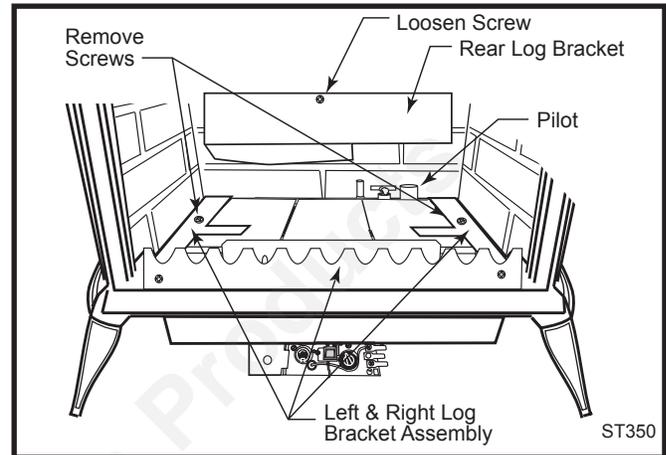

Fig. 28 Remove rear log bracket and left and right log bracket assembly.
5. Remove the rear log bracket by loosening the screw and sliding the bracket up. **CAUTION:** Do not remove the screw completely. It would be very difficult to replace. (Fig. 28)
6. Remove the right and left log bracket assembly by unfastening the two screws which hold the burner in place. (Fig. 28)
14. Locate pilot. (Fig. 28)